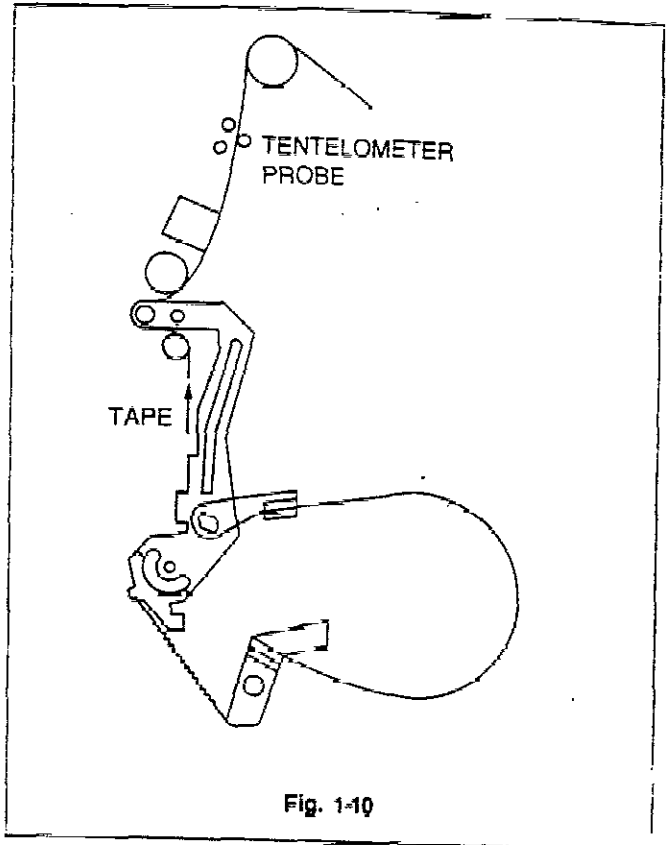

Fig. 1-10
- 2) Set the Tentelometer as shown in Fig. 1-10 and confirm the scale (SPEC: 22 ~ 30g).